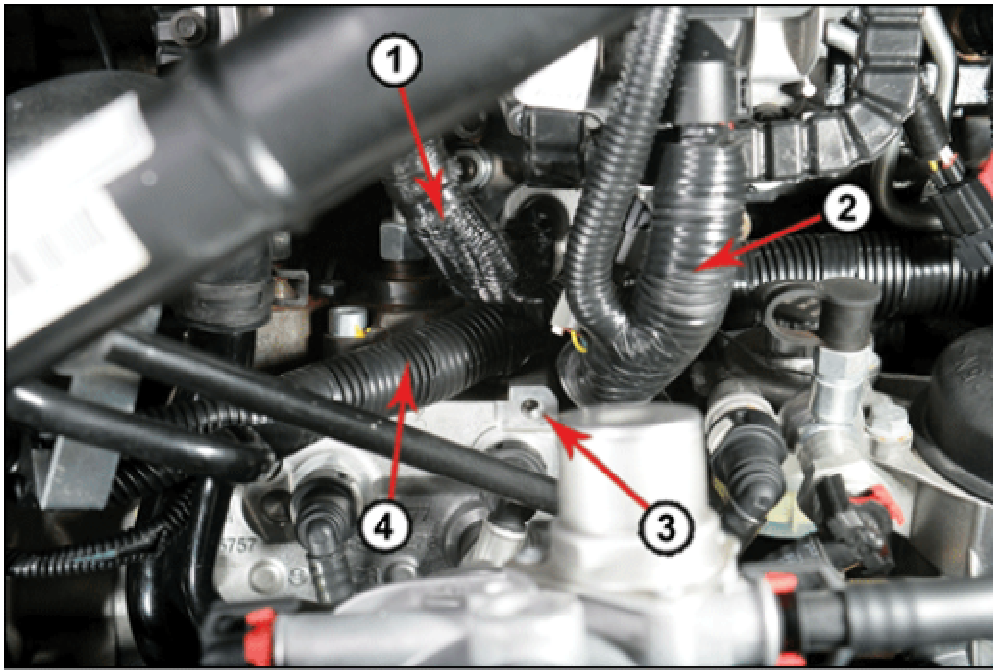
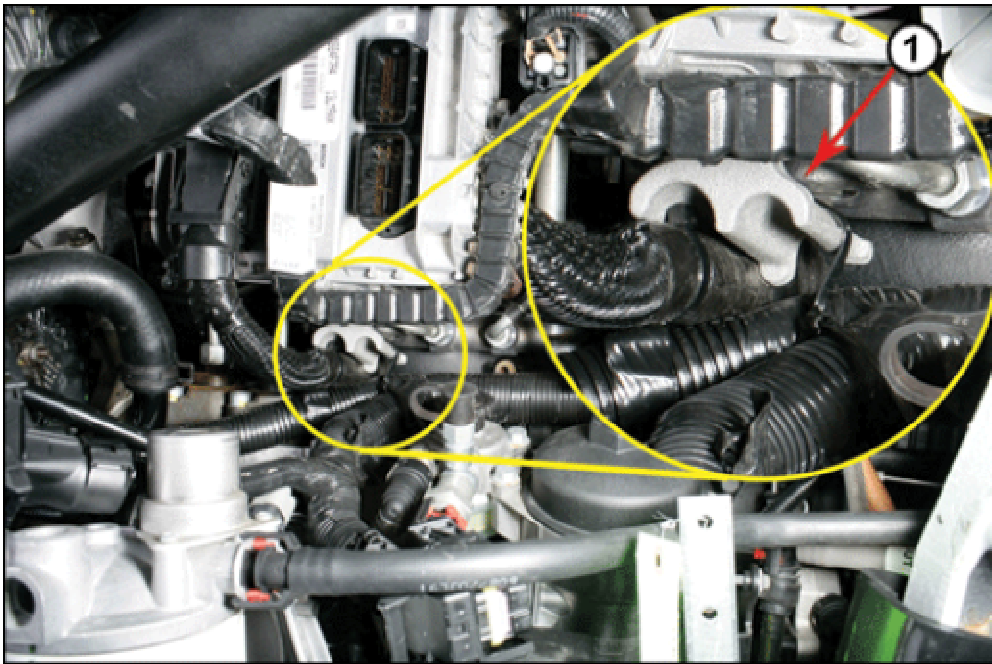

Figure 11
Figure 12
10. Locate and remove the existing cable strap or straps that secure the alternator harness, ECM-to-sensor harness, and chassis-to-ECM harness to the cast-in strain-relief bracket (Figure 11).
11. Insert a new cable strap around the strain-relief bracket and around the alternator harness and the ECM-to-sensor harness and tighten the cable strap enough to lift the harnesses off of the pump screw boss (Figure 11 and Figure 12).